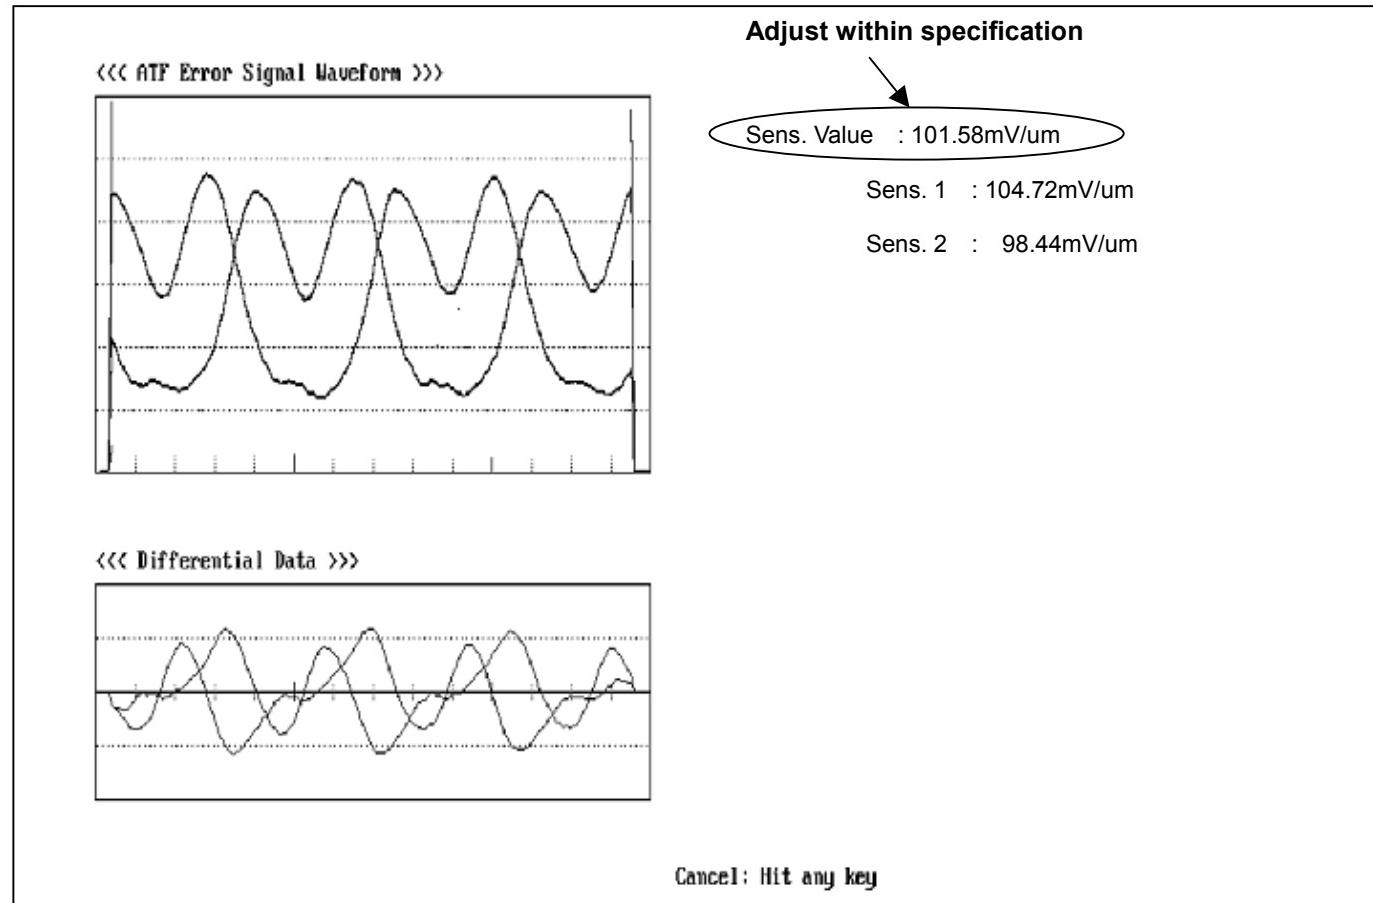

Figure 3-34-3
3. Select the LISTA Main Menu "(6) ATF Error Signal Monitor" so that the screen of <ATF Error Signal monitor> appears. Then press Enter to start the software.
4. When the picture is appeared as shown in figure 3-34-3, adjust ATF Gain (A17: PBL GAIN 25) so that the "Sens. Value:" is in the Specification.
6. Select the Lista Main Menu "(1) Sensitivity Measurement" so that the screen of <ATF Error Signal monitor> appears (refer to 3-34-2).
8. Confirm that the sensitivity value is within the specification. (refer to figure 3-34-3).
9. If it is out of specification, return to item 3.